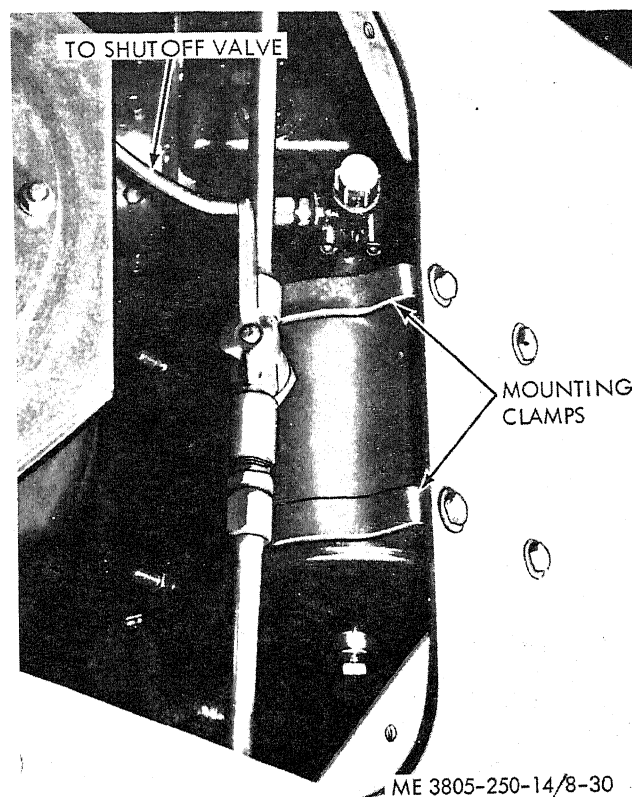

Figure 8-30. Auxiliary reservoir.
(1) Removal. Refer to figure 8-30.